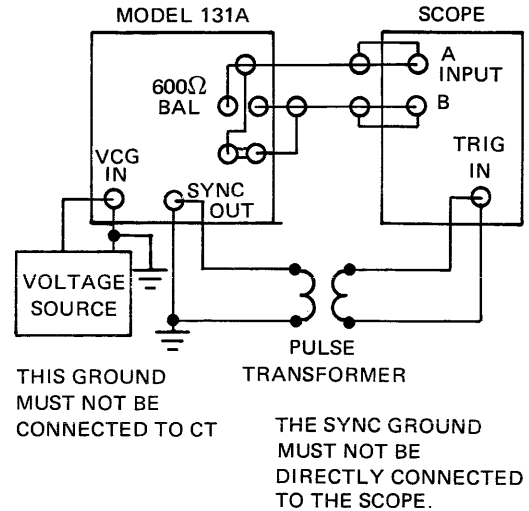

Figure 2-5.  $600\Omega$  Sync Out Connections
5. Connect external voltage source (dc programming or wideband ac signal) to VCG IN connector. When using the 600Ω OUTPUT the VCG IN BNC shell must not be connected to 600Ω CT or ground. See Figure 2-5.
When the 50Ω/600Ω selector is switched to 50Ω, all the BNC connector shells are connected to the signal common. When it is switched to 600Ω, it is advised to restrict the BNC connector shells from connecting to any of the four binding posts of 600Ω BAL. OUT, since the BNC shells are connected to one of the balanced signal outputs. See Figure 2-5.
An error in signal common connection will not damage the instrument. See Figure 2-5.